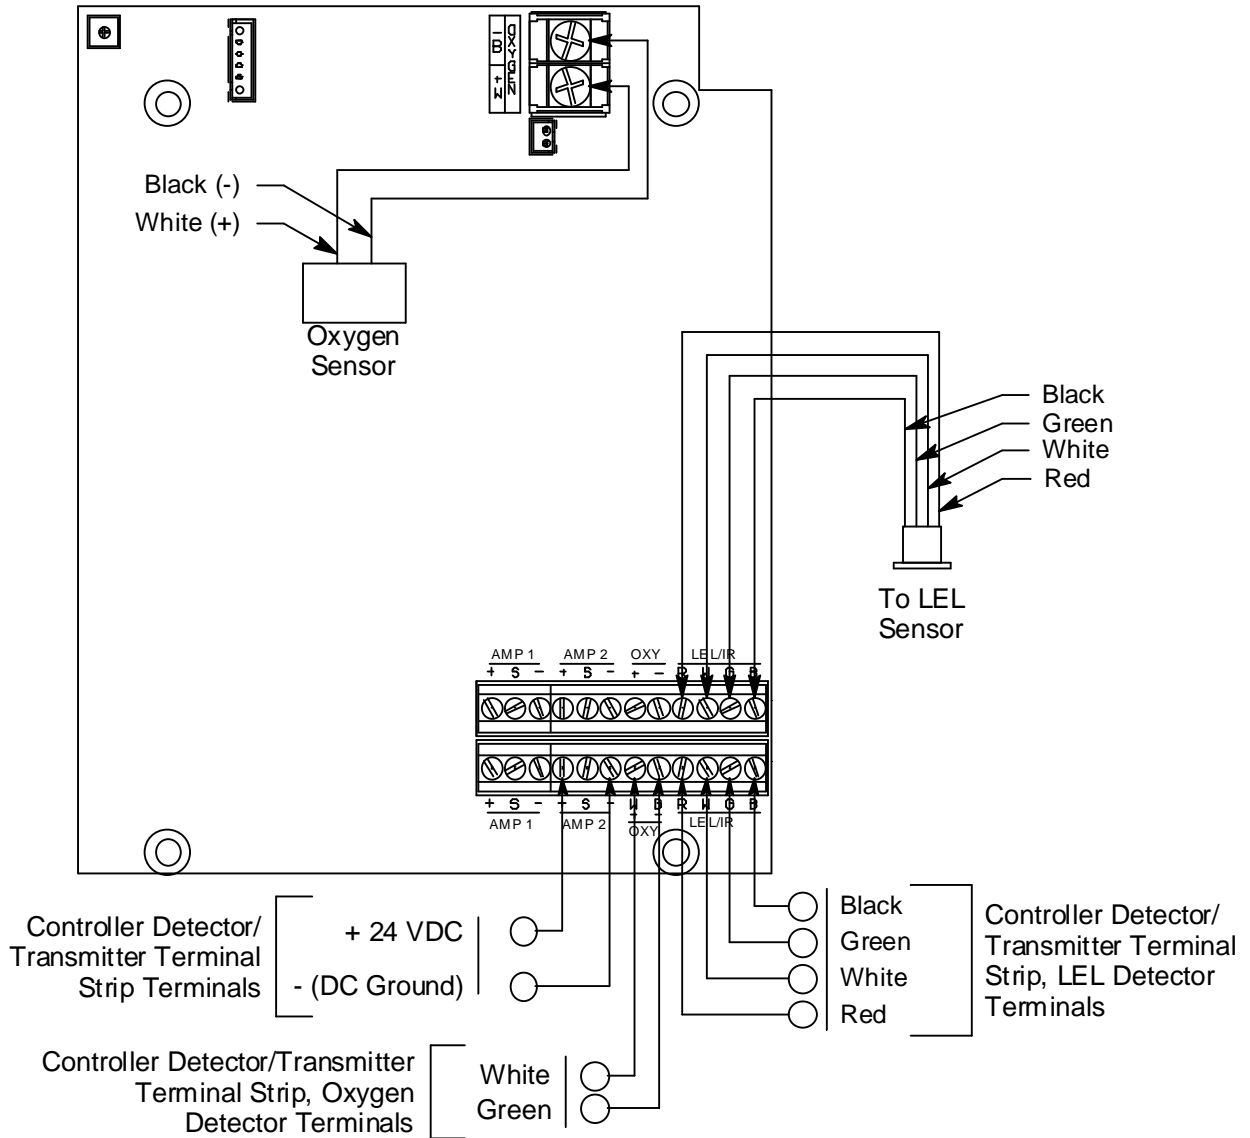

Figure 4: Wiring the Sample-Draw Detector to a Controller
5. Connect the cable to the sample-draw detector’s interconnect terminal strip as shown in Figure 4.
8. Connect the wires to the applicable detector/transmitter terminal strip at the controller as shown in Figure 4. Refer to the controller operator's manual and the controller detector head specification sheet for the 35-3001-06H-DIL for detector/transmitter terminal connections specific to the controller.